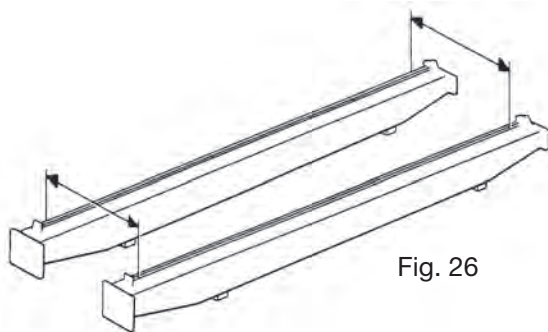

Fig. 26
- Align and separate the crane beams from each other so that the distance between the tracks corresponds to that of the hoist or winch that is to be supported. (figure 26).